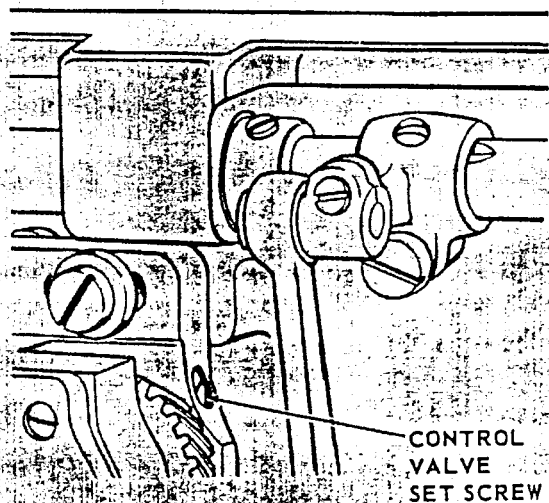

Fig. 6. Hook Lubrication (Step One)
1. Tip machine and loosen control valve set screw shown in Fig. 6 and return machine to upright position.